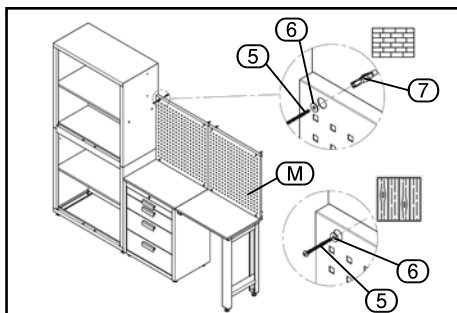

FIG. 9
8.8 INSTALLING THE BACK PANELS – FIG. 9